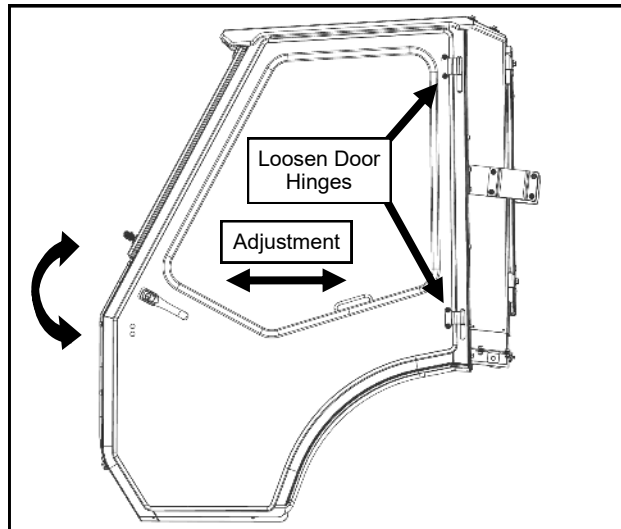

Fig. 24.3a (Door Hinge Adjustment)
**24.3** Loosen the door hinges to allow for adjustment later. While lifting up and forward on the door handle, line up the door latch with the striker pin and carefully attempt to latch. You should be able to hear 2 clicks as you slowly engage the latch on the pin. If the latch is too far forward or back to latch on the pin, adjust as shown. See Figures 24.3a through 24.3c. Then retighten and latch.